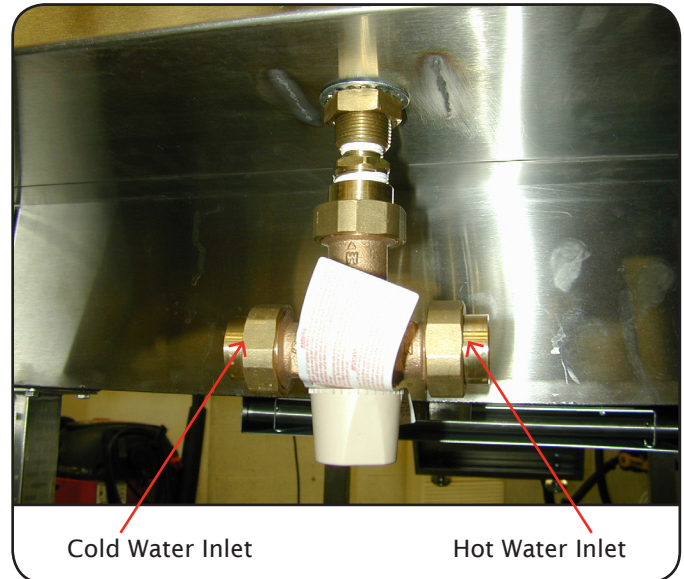

figure 5
1. Plumber to run Hot Water supply line to Hot Water inlet side of Tempering Valve. Temperature not to exceed 120 degrees on this line. Run Cold Water supply line to Cold Water inlet side of Tempering Valve. Inlets are clearly marked H for Hot Water and C for Cold Water. (Fig. 5)